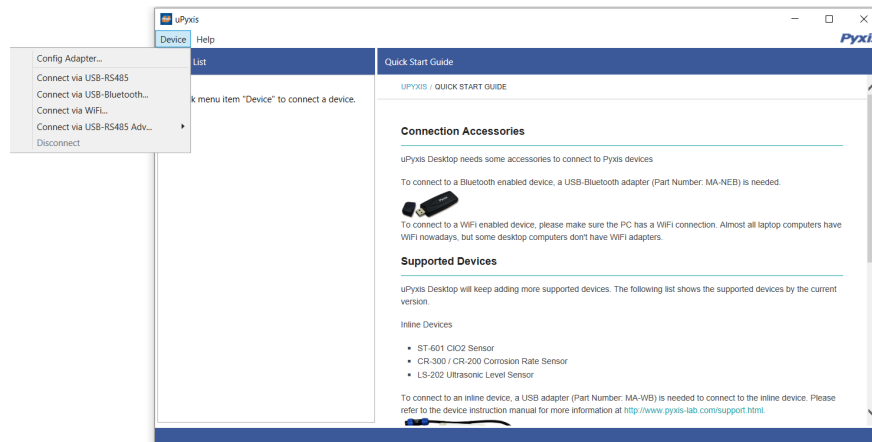

Figure 12.
3. On **uPyxis®** Desktop App, click Device → **Connect via USB-Bluetooth** or **Connect via USB-RS485** (Figure 12).
4. If the connection is successful, the ST-601 sensor and its Serial Number (SN) will be displayed in the left pane of the **uPyxis®** window.